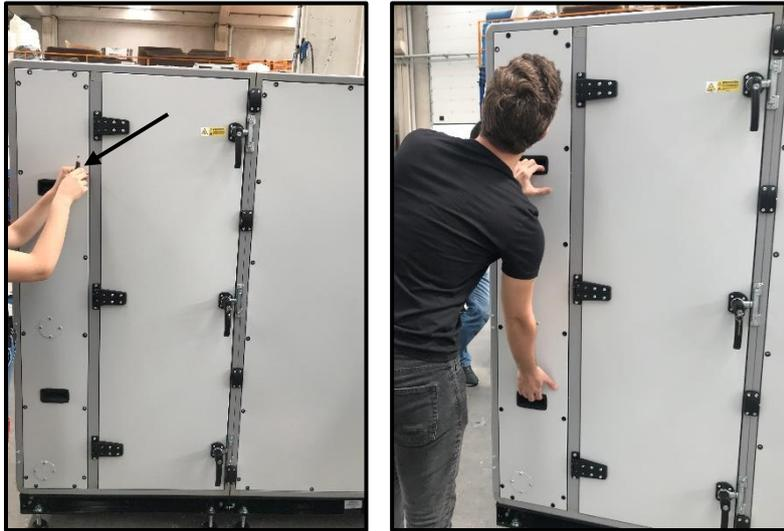

Fig. 66
1. Unlock the lock and turn the handles counter clock-wise direction for opening doors. (Fig. 66)